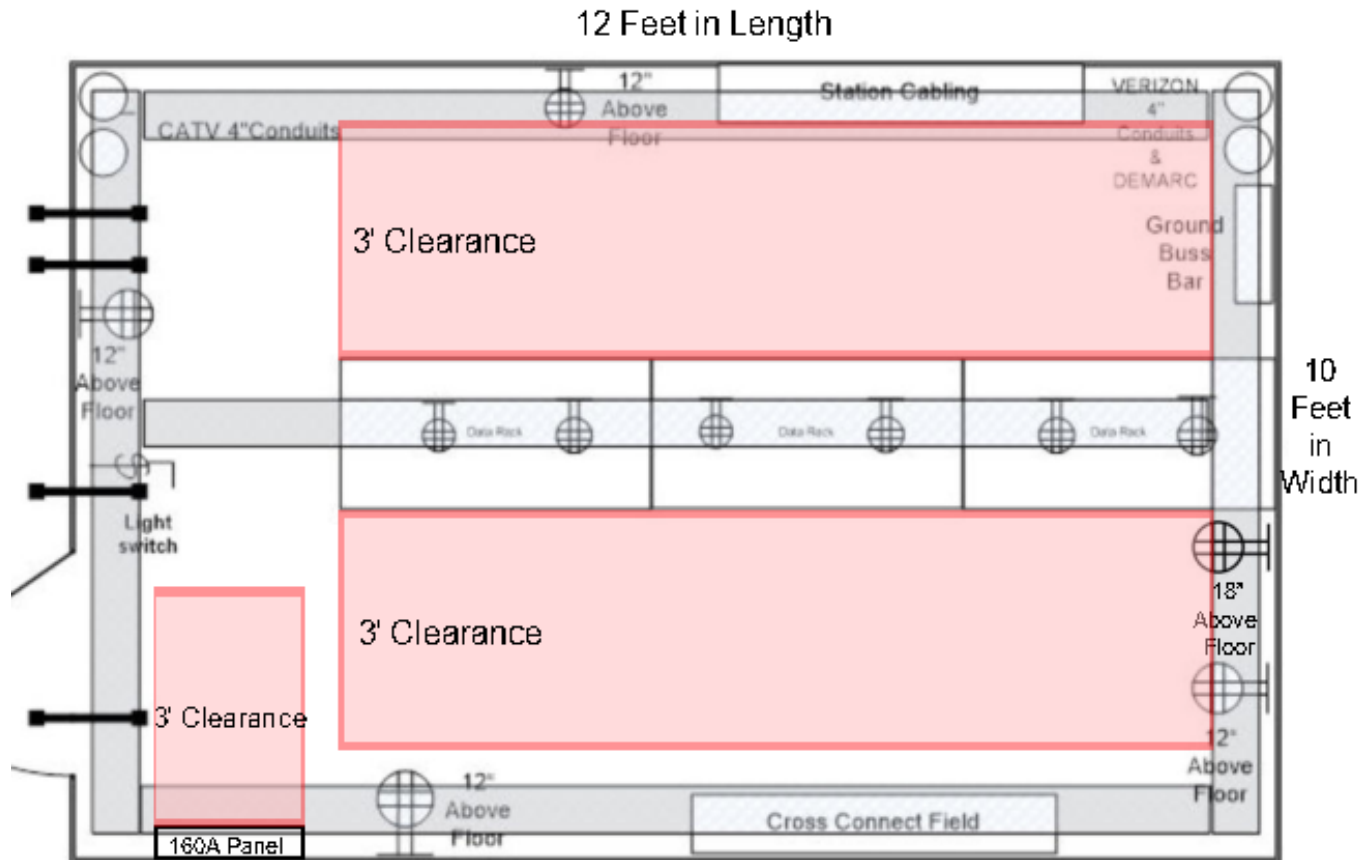

Figure 1 Telecommunications Room Electrical Requirements
- See Figure 1 Telecommunications Room Electrical Requirements
- Provide a two hundred (200) amp electrical panel in the Telecommunications Room dedicated to low voltage equipment
- For every rack included in the design, provide two (2) 120Vac/20A quadplex outlets at 90” AFF behind the proposed rack location (s) or installed on the rack. Each outlet shall be on a dedicated circuit.
- Provide a dedicated twenty (20) amp quadplex outlet on wall behind rack 18” AFF (supplies power to UPS).